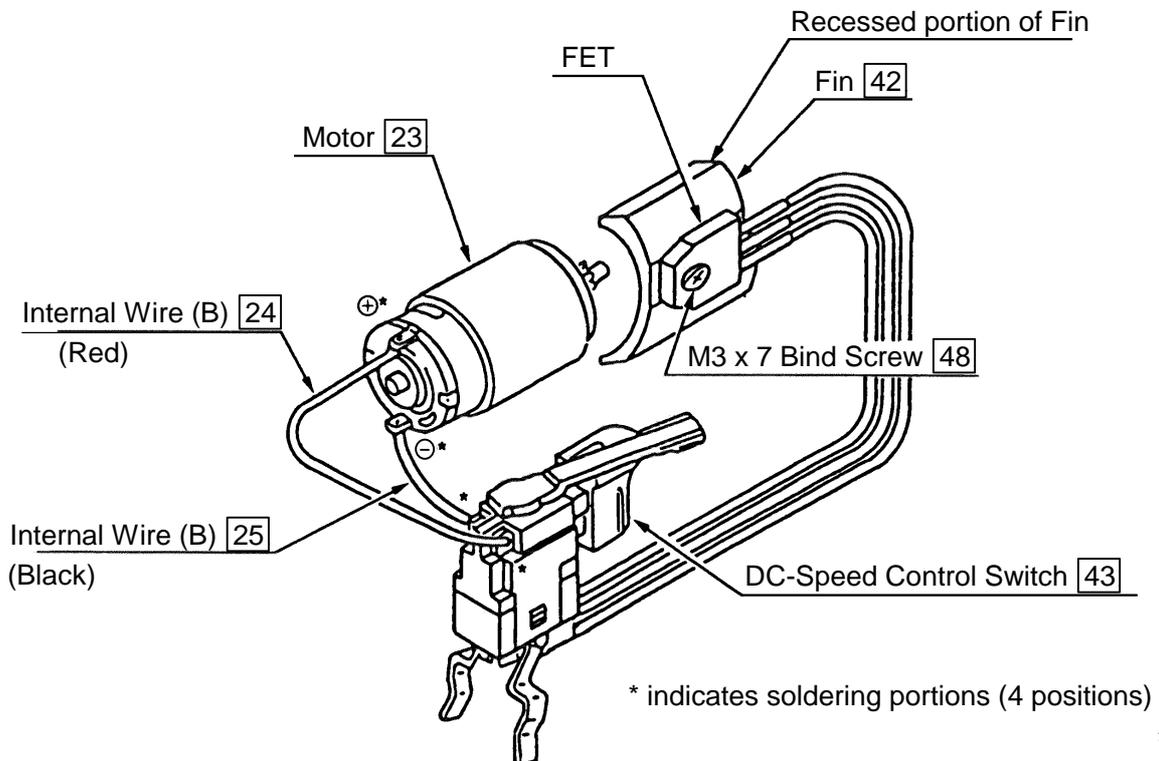

Fig. 4 Internal wire Arrangement of the Model DS 7DV
- (3) Ensure that the wiring of the Model DS 7DV is connected in accordance with the internal wire arrangement illustrated in Fig. 4.
- (4) When mounting the Fin [42] onto the FET, which is connected to the DC-Speed Control Switch [43], the